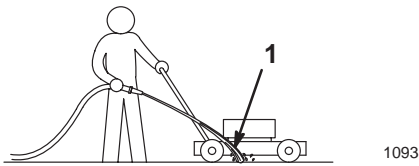

Figure 16
5. Hold the running water hose at handle level and direct the water flow on the ground just in front of the **rear right** wheel (Fig. 16).